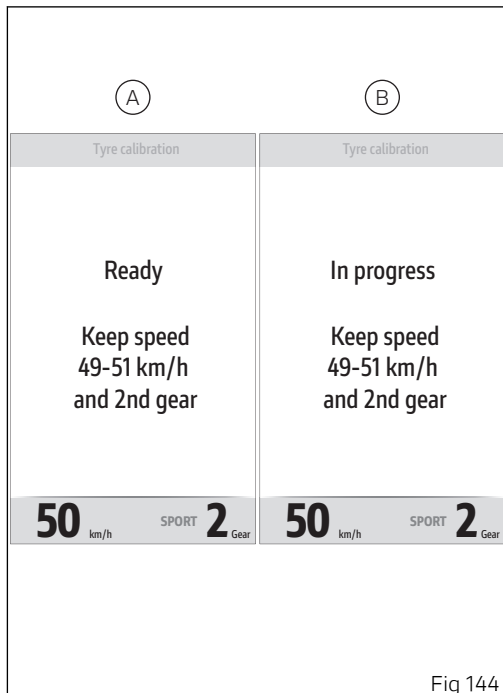

Fig 144
The procedure can be aborted by holding button (1) pressed for a long time: in this case the instrument panel displays all previous information, replacing message "In progress" (B, Fig 144) with message "Aborted" (D) followed by the previous menu after a few seconds.